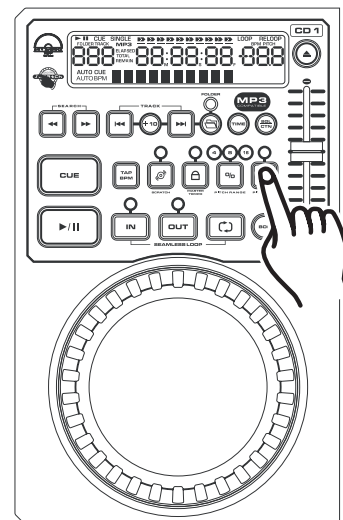

Figure 22
Adjusting the PITCH SLIDER'S RANGE: You may change the *PITCH SLIDER'S* (5) operating range at any time. To change the operating range be sure the pitch function is turned on, see figure 22. The pitch percentage range can be changed between +/-4%, +/-8%, and +/-16%. 4% will allow the least amount of pitch manipulation and 16% will allow the most amount of pitch manipulation. To adjust the different ranges, press the *PITCH ON/OFF BUTTON* (6) and tap on the *PITCH RANGE BUTTON* (7) until your desired value is reached, see figure 40.